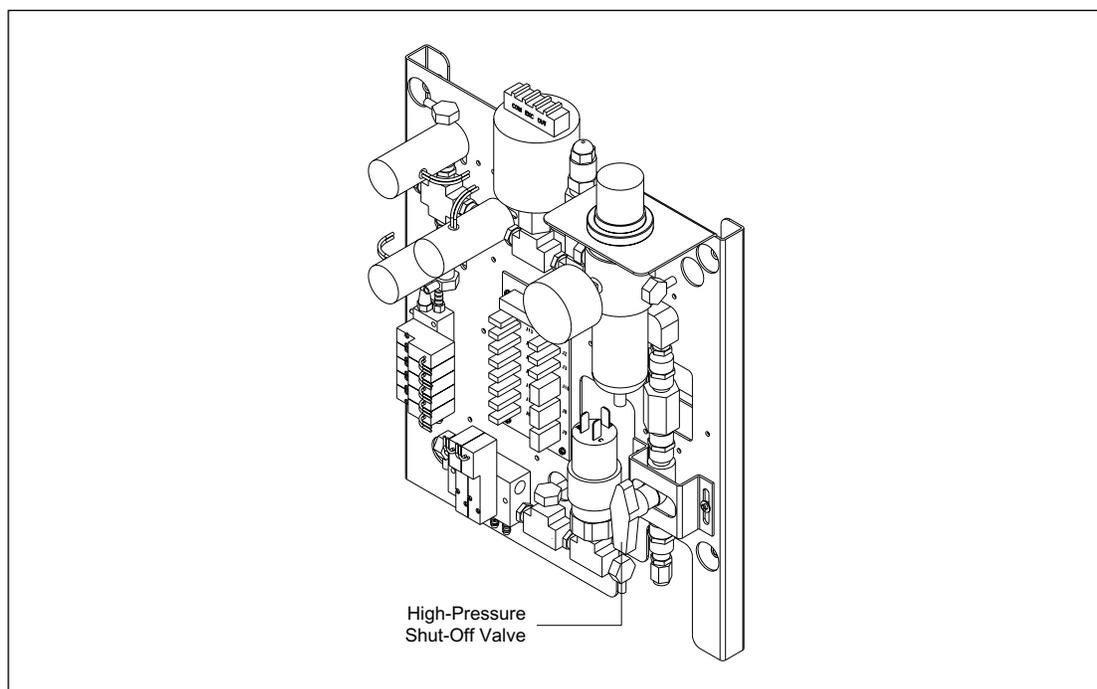

Figure 8-4. High-Pressure Shut-Off Valve.
6. Turn off the high pressure at the high-pressure shut-off valve on the pneumatics panel (see figure 8-4) and use the supply regulator gauge to monitor for leakage between the supply and the pneumatics panel. If the pressure is stable at the supply regulator, the leak must be in the instrument.